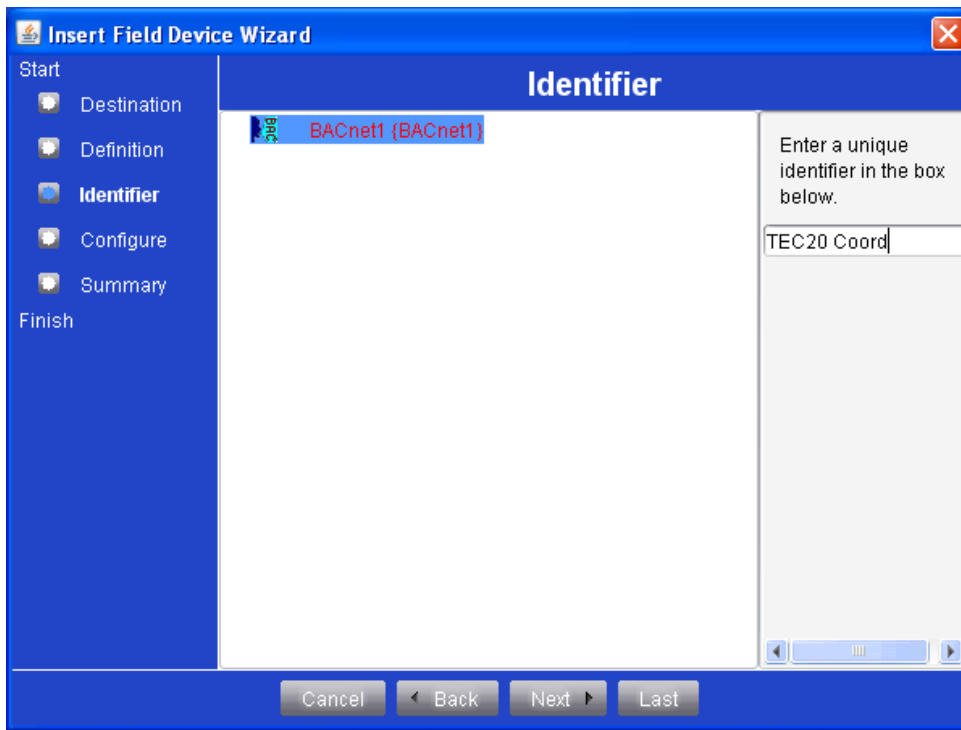
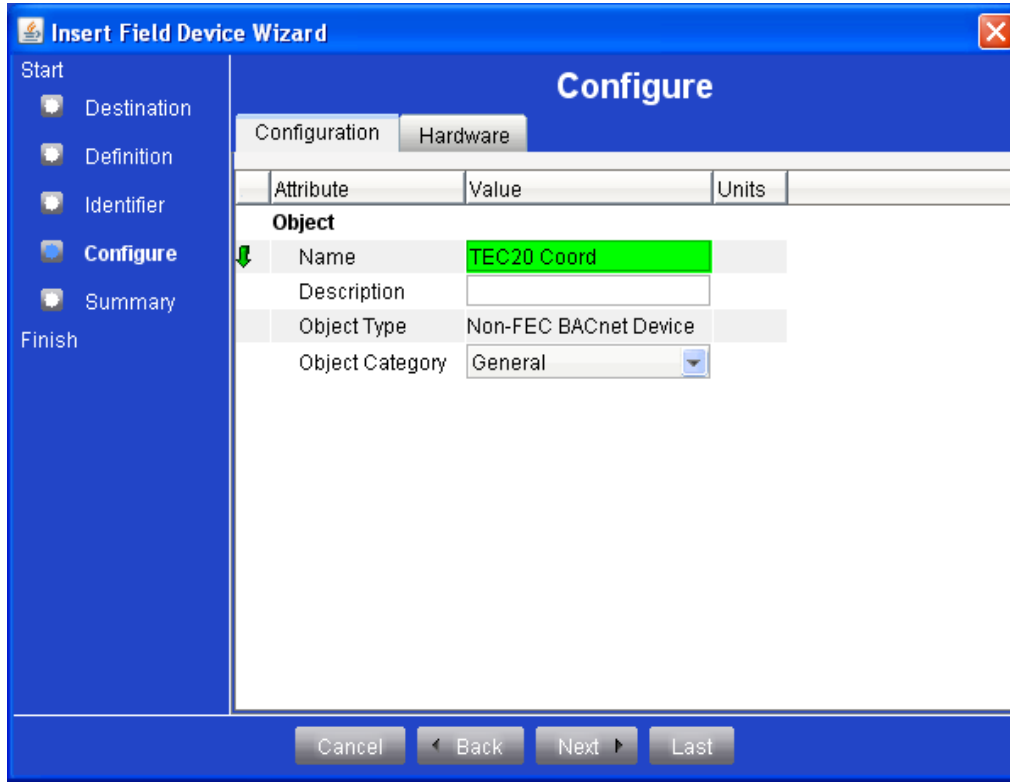

Figure 31: Insert Field Device Wizard - Identifier Screen
Figure 32: Insert Field Device Wizard - Configure Screen
Note: As soon as you select a device, the Wizard Auto Detect Utility closes and the **Insert Field Device Wizard - Identifier** screen (Figure 31) appears.
6. Enter a unique identifier in the field in the upper right corner of the **Insert Field Device Wizard - Identifier** screen (Figure 31), and then click **Next** to open the **Insert Field Device Wizard - Configure** screen (Figure 32).
7. Enter the Name and Description in the editable fields on the **Insert Field Device Wizard - Configure** screen (Figure 32); then click **Next** to go to the **Insert Field Device Wizard - Summary** screen (Figure 33).